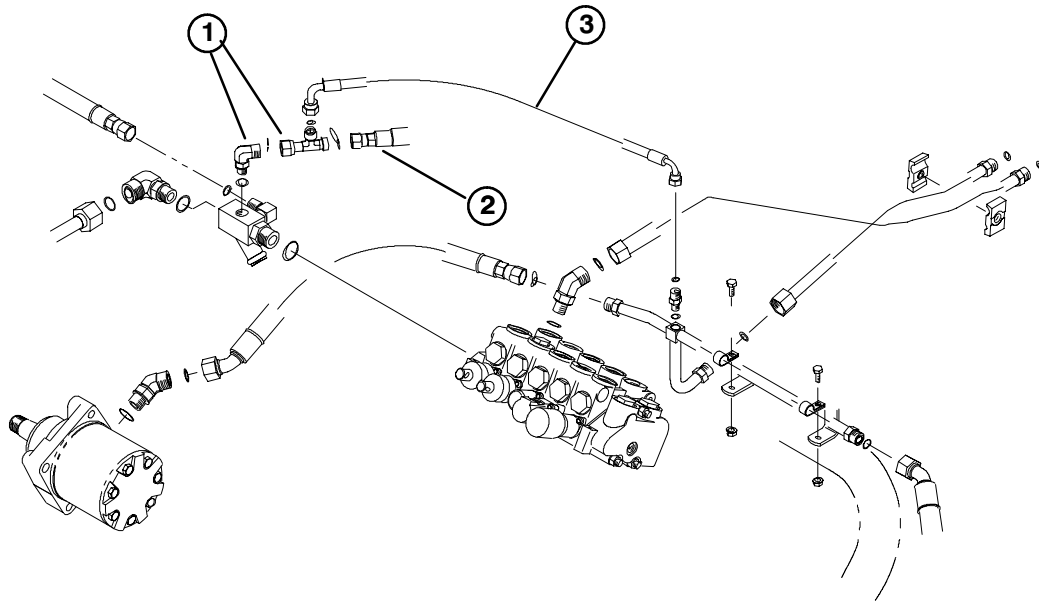

Figure 6
17. Install new 90 degree adapter and swivel tee fitting to top of tee manifold at 45 degree angle toward center of machine (Fig. 6).
18. Re-install steering hose to end of swivel tee fitting (Fig. 6).
19. Install new hose to top of swivel tee fitting and to check adaptor on traction hardline (Fig. 6).